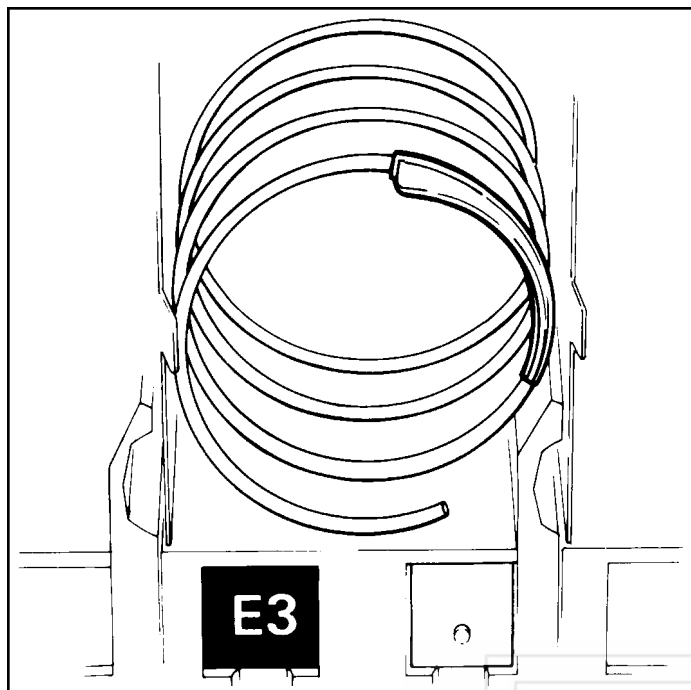

Figure 7. LOCATION OF PRODUCT PUSHER ON SPIRAL.
8. **PRODUCT PUSHER:** The machine contains enough pushers for you to install a pusher on each candy spiral. This plastic part is designed to push the top of the product forward while it is vending, helping it fall from the shelf. It can also be used with products that have the wrapper end flap on the outside of the package. In this case, the pusher prevents these products from hanging on the spiral by spreading the flap. The pusher is installed approximately 210 degrees from the front end of the spiral with the tab extending forward (see Figure 7). Locate the pusher in its proper position, hold it against the spiral wire and push the semi-circular part around the spiral wire. Note: Not every selection spiral will need a product Pusher. (Example—Box Items)